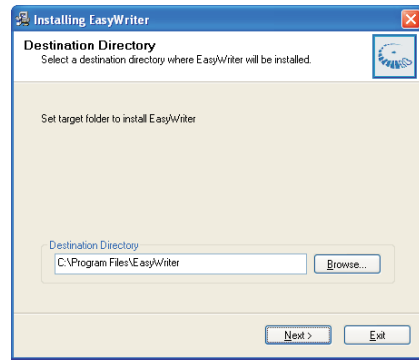

Fig. 4
- Step 4 : Double click the EasywriterV2.09a\_user.exe icon to install the Application as Fig. 4.